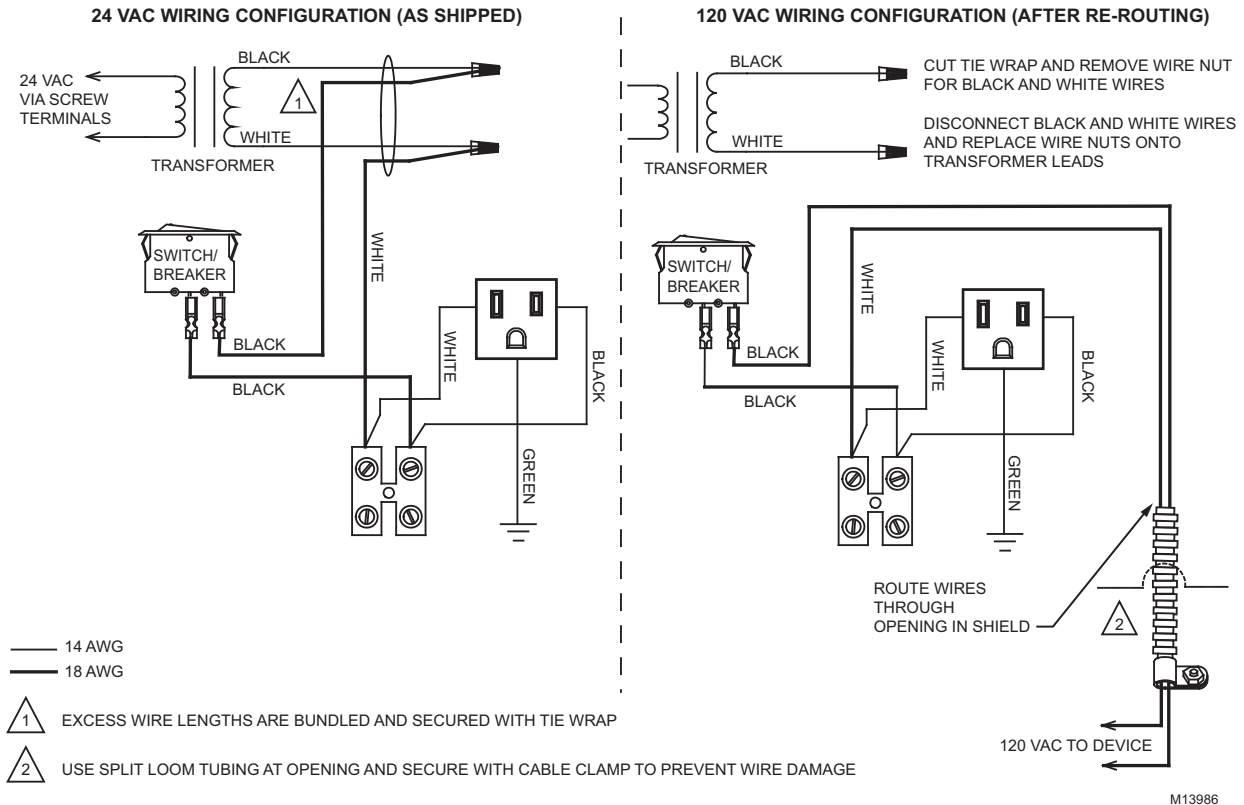

Fig. 8. Schematics of 24Vac wiring (as shipped) and re-routed 120Vac wiring (optional).
In addition to “Removing the Wiring Shield,” making the “Earth Grounding” termination, and “Connecting the 120Vac Power Circuit,” you must re-route the wiring to the transformer primary side to change it to the NPB-PWR-UN-H input circuit, including the circuit breaker/switch. Do this by removing and replacing two wire nuts, and re-routing wire as shown in Fig. 8 and described in procedure 6: RE-routing wiring for 120Vac module., page 9.
3. Route both freed AC lead wires through a piece of split loom tubing and secure with a cable clamp, fastened to the enclosure stud immediately below the shielded wiring area. See Fig. 8 above.